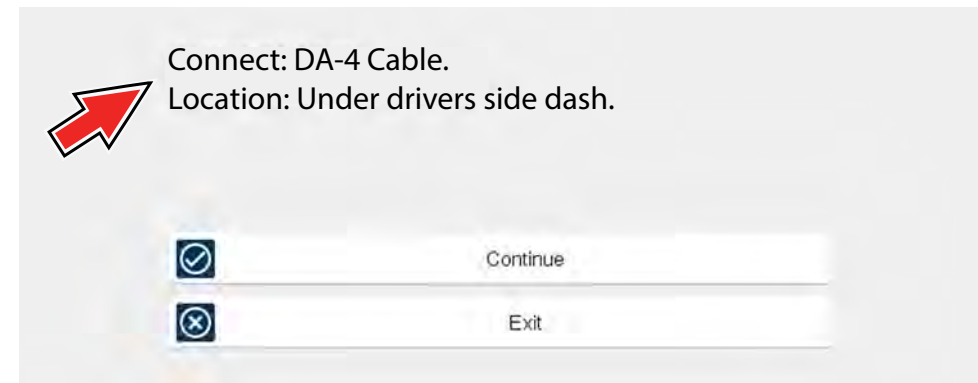

Figure 4-2 Vehicle data cable connection information
2. After identifying the vehicle using the Scanner or OBD-II/EOBD function (see Vehicle Identification on page 14) review any on-screen information that may be provided for data cable connection, usage and DLC location (Figure 4-2).